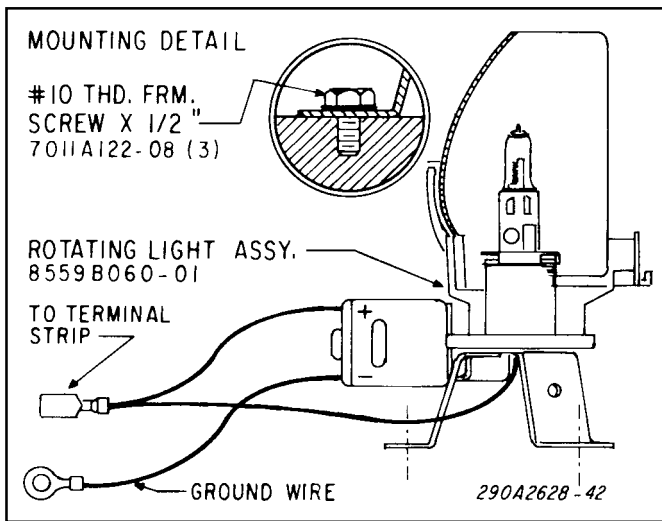

Figure 3.
- b. See figure 3. Secure the assembly in position using three #10 x 1/2" hex head thread-forming screws. Torque the screws to 30 - 55 in-lbs.